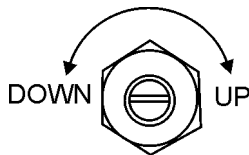

Figure 37. Engine Idle Adjust Trimmer
17. If the engine speed is too high or low, use the high idle adjust trimmer (Figure 37) located in the control box to adjust the rated speed of the engine.